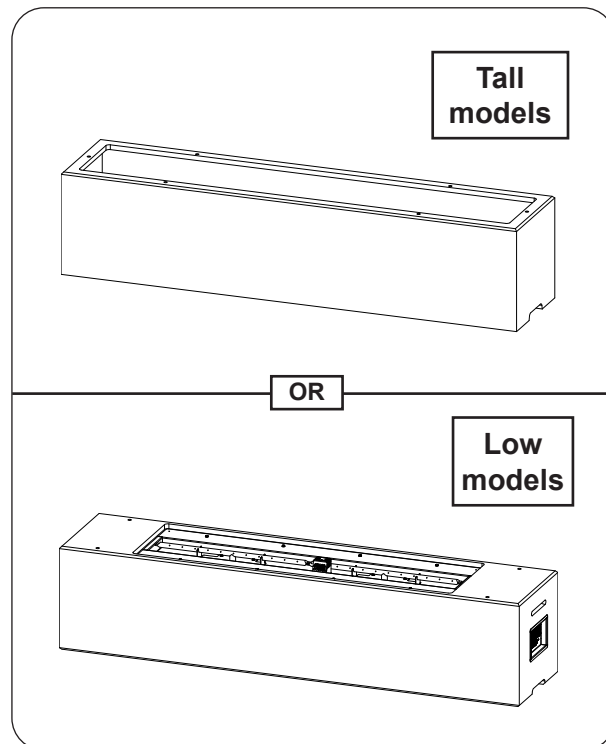

Fig. 27-1 Place base
1. **CAREFULLY** place the base in an appropriate location (see Fig. 27-1, and refer back to the LOCATION section if needed).